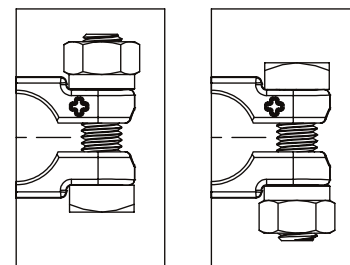

FIGURE 2
4. ATTACH THE BASE ASSEMBLY TO THE POSITIVE BATTERY POST OVER THE COVER. SECURE THE ASSEMBLY BY TIGHTENING THE M8 SHOULD HEX NUT TO $12 \pm 1 \text{ N}\cdot\text{m}$. M8 NUT AND BOLT CAN BE ASSEMBLED IN LEFT OR RIGHT HAND ORIENTATION FOR BEST ACCESS DURING ASSEMBLY (FIGURE 2).